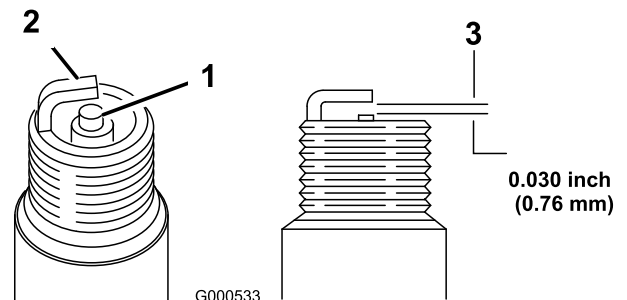

Figure 34
11. Set the gap on the plug to 0.76 mm (0.030 inch) as shown in Figure 34.